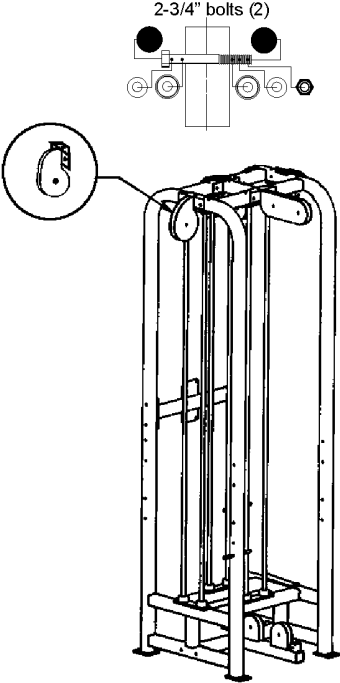

Figure 4. Bolt on the teardrop pulleys.
2. **Bolt on the teardrop pulleys above the benches** (see Figure 4) on both cubes using two  $3/8"$  x  $2-3/4"$  hex head bolts (used to bolt the cross beam to the cross members and the adjustable pulley tops to the top beams). Include the  $3/8"$  flat washer, end cap washers, end caps and  $3/8"$  Nyloc (locknut). Use the bolt configuration shown in Figure 5. You may wish to use a pinch bar to align the bolt holes.
**Hardware Figure 4. Top assemblies.**
- S. Teardrop pulleys (bolt on above lat pulldown) (2)
- T. 56" Lat tops (bolt to top of cells with pulleys above lat benches) (2)
- U. 29" Tricep top (bolt on to 56" lat top bar) (2)